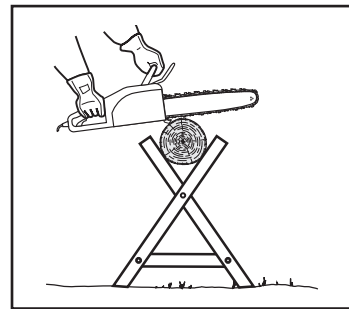

Fig. 12e
- Support small logs on a sawing stand or another log while bucking (Fig. 12e).